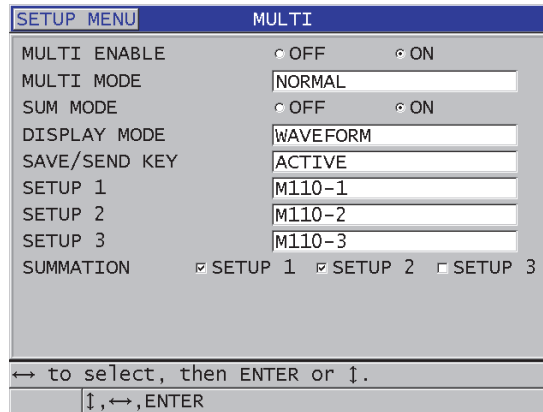

Figure 7-7 Setting multi-measurement parameters in the normal mode
5. In the **MULTI** screen (see Figure 7-7 on page 118):